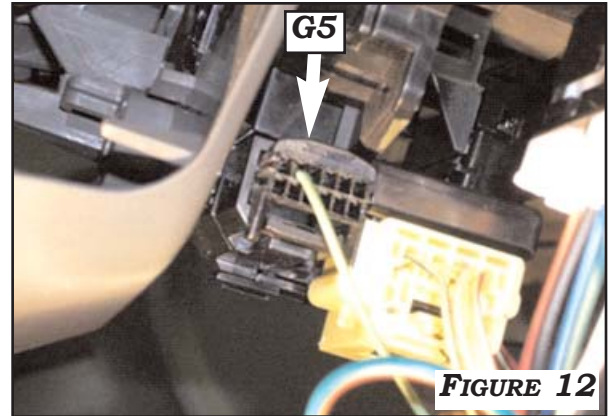
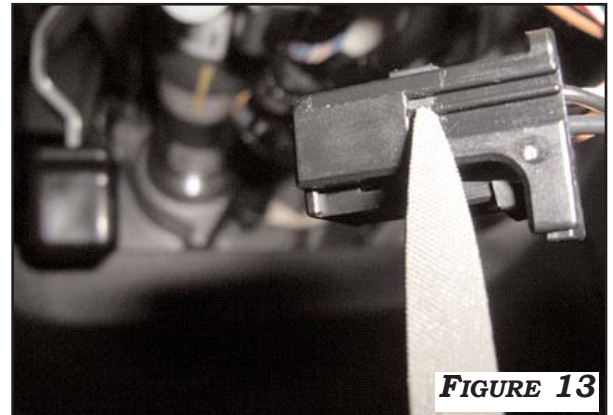
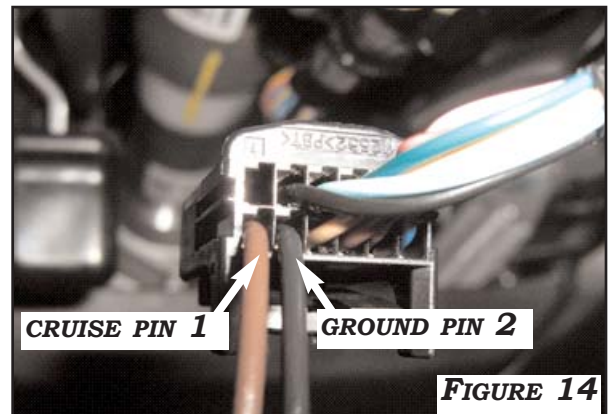
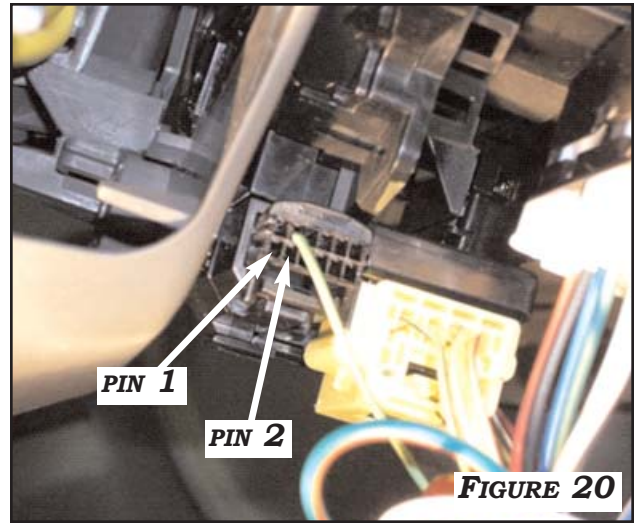

FIGURE 12
FIGURE 13
FIGURE 14
FIGURE 20
1. LOCATE BLACK CONNECTOR **G5** BEHIND STEERING WHEEL AT RIGHT SIDE OF COLUMN. **FIGURE 12**. REMOVE CONNECTOR. **BE SURE TO PRESS IN TABS ON BOTH SIDES TO PUSH UP TERMINAL RETAINER AT THE CENTER OF CONNECTOR. FIGURE 13.** INSERT THE **CLOCK-SPRING** TERMINAL FROM THE **BROWN** CRUISE ECM HARNESS TO **PIN 1** (CRUISE CIRCUIT) OF CONNECTOR **G5** CAREFULLY LOCKING TERMINAL INTO PLACE. **FIGURE 14**. PULL THE TERMINAL BACK GENTLY TO CHECK WHETHER IT IS LOCKED CORRECTLY.
2. INSERT THE **CLOCKSPRING** TERMINAL FROM THE **BLACK** CRUISE GROUND HARNESS INTO **PIN 2** OF CONNECTOR **G5** CAREFULLY LOCKING TERMINAL INTO PLACE. PULL THE TERMINAL BACK GENTLY TO CHECK WHETHER IT IS LOCKED CORRECTLY. **FIGURE 14**. REASSEMBLE CONNECTOR AND PLACE BACK ONTO CLOCKSPRING. **BE SURE RETAINER IS PRESSED IN BEFORE REINSTALLING.**
1. LOCATE CONNECTOR G5 OF CLOCKSPrING BELOW RIGHT HAND SIDE STEERING COLUMN. REFER TO **FIGURE 12**, PAGE 5.
2. WITH IGNITION SWITCH ON, PLACE POSITIVE LEAD OF METER ON **PIN 1** (DC).
3. PLACE COMMON LEAD ON **PIN 2** (GROUND). **SEE FIGURE 20**. CONFIRM READINGS ARE AS FOLLOWS: